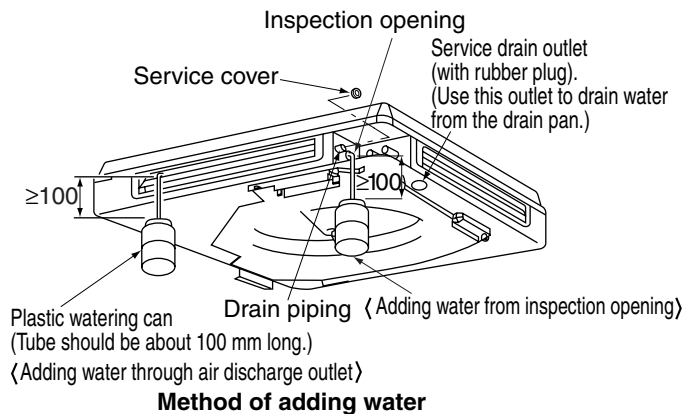

Fig. 31
- Open the water inlet lid, add approximately 1 liter of water slowly and check drainage flow. (Refer to Fig. 31)